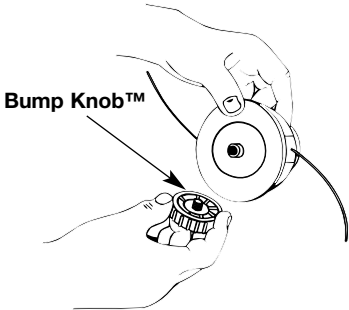

Fig. 12
1. Hold the outer spool with one hand and unscrew the Bump Knob™ counterclockwise (Fig. 12). Inspect the bolt inside the Bump Knob™ to make sure it moves freely. Replace the Bump Knob™ if damaged.
1. Hold the outer spool with one hand and unscrew the Bump Knob™ counterclockwise (Fig. 12, Pg 15). Inspect the bolt inside the Bump Knob™ to make sure it moves freely. Replace the Bump Knob™ if damaged.